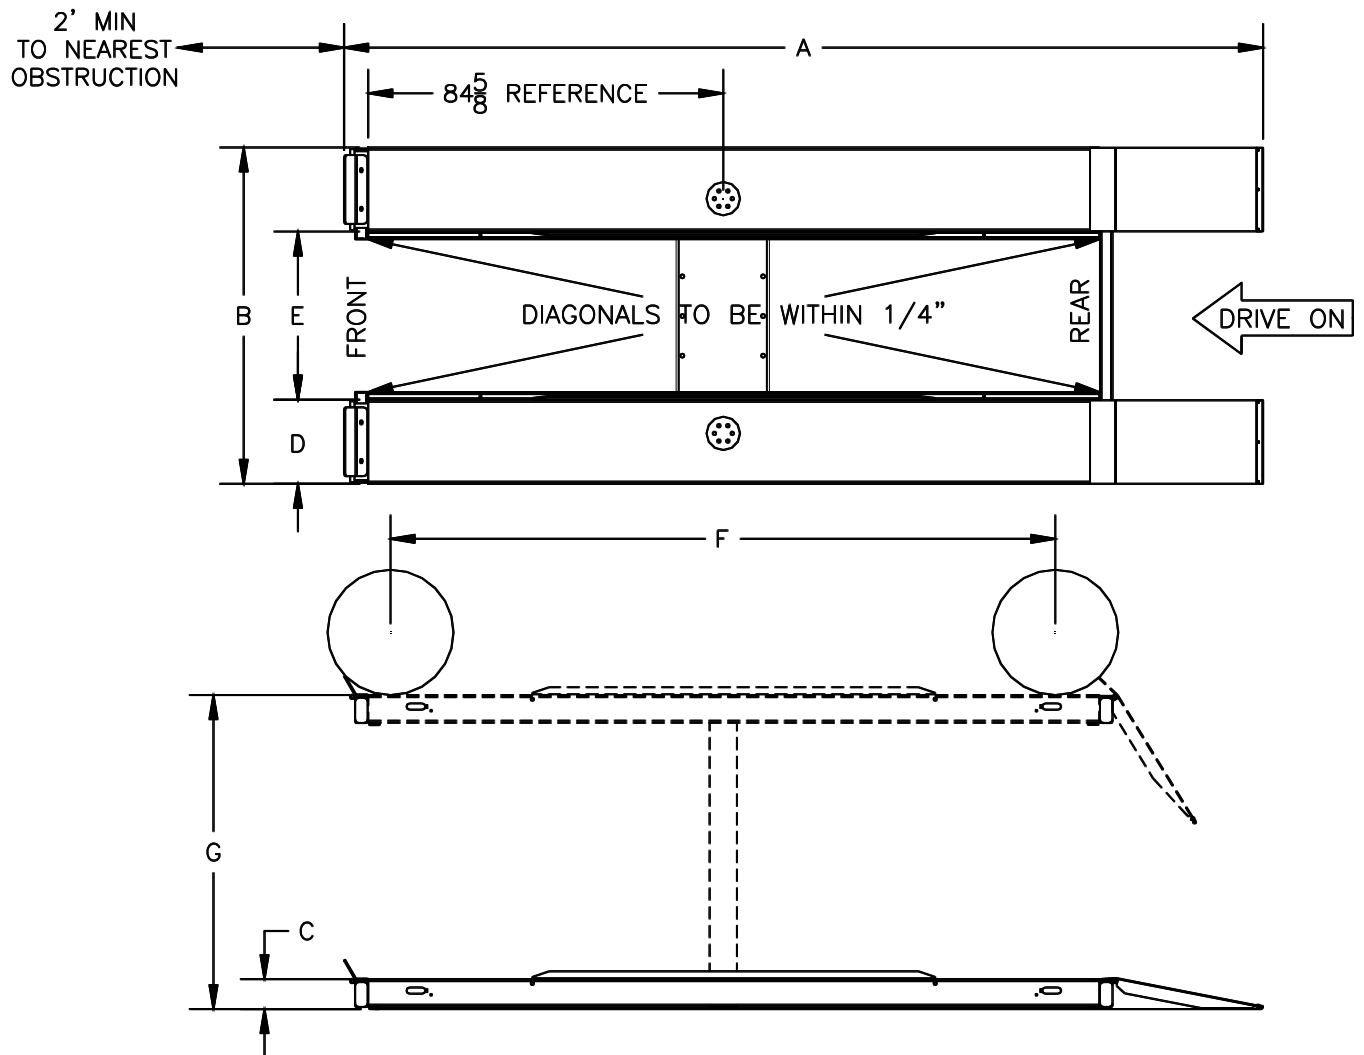

Fig 1 – General Specifications and Service Bay Layout
- Loosely install the runways to the lift plungers with 7/8-9 x 7 bolts, see Fig. 1. (The front end of the runway measures 84 5/8" from the center of the plunger to the front edge of the runway shell compared to 89 5/8" for the rear.) The diagonal cross straps on the bottom of the runway should be located toward the front of the lift.